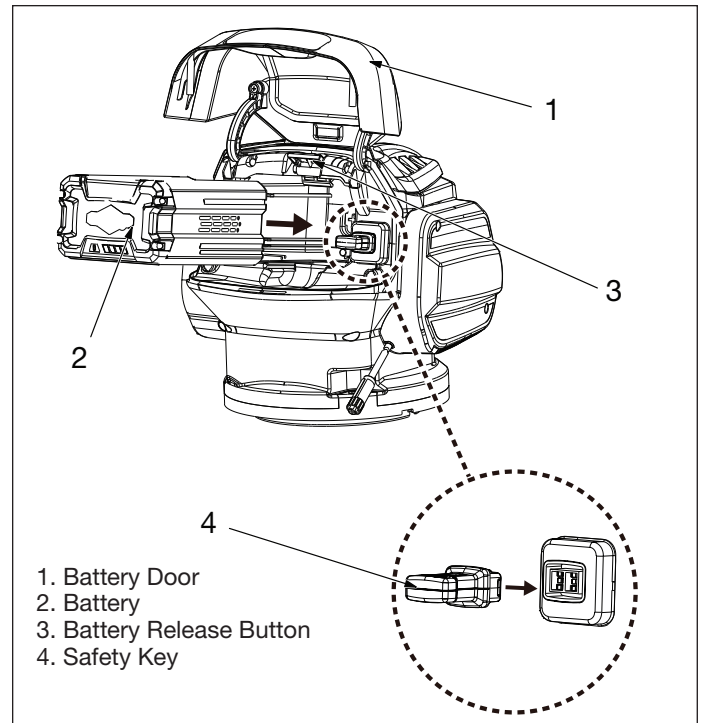

Figure 6, Battery Installation
2. Lift battery door and hold it open. See Figure 6.
4. Slide the battery outwards and remove it from the battery compartment. See Figure 6.